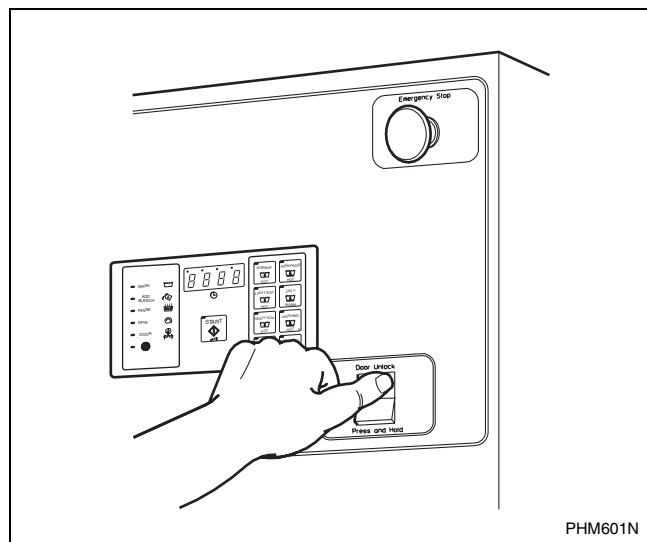

Figure 6
2. Use left hand to press and hold the door unlock button located on the lower right front of the control panel. Refer to *Figure 6*.